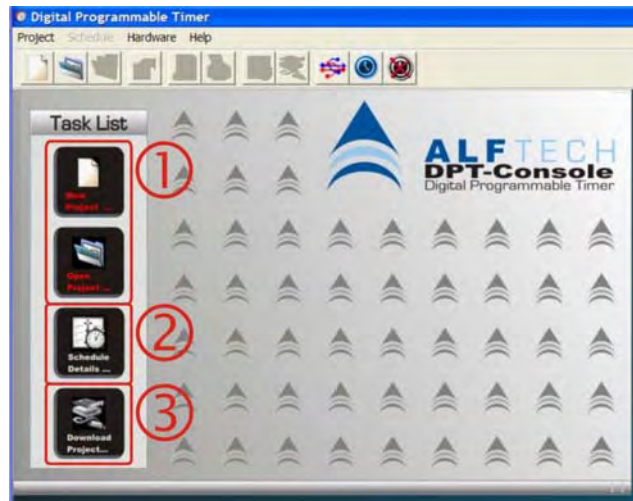

Fig. 1: The primary User Interface (the DPT-CONSOLE Desktop)
STEP ①: Create a new DPT Project file (*.dpt) by selecting the "New Project..." Icon on the DPT-CONSOLE Desktop (Fig. 1 above). Once a Project file has been created, you can always re-open the file to edit and modify the schedule, and configure the hardware again.